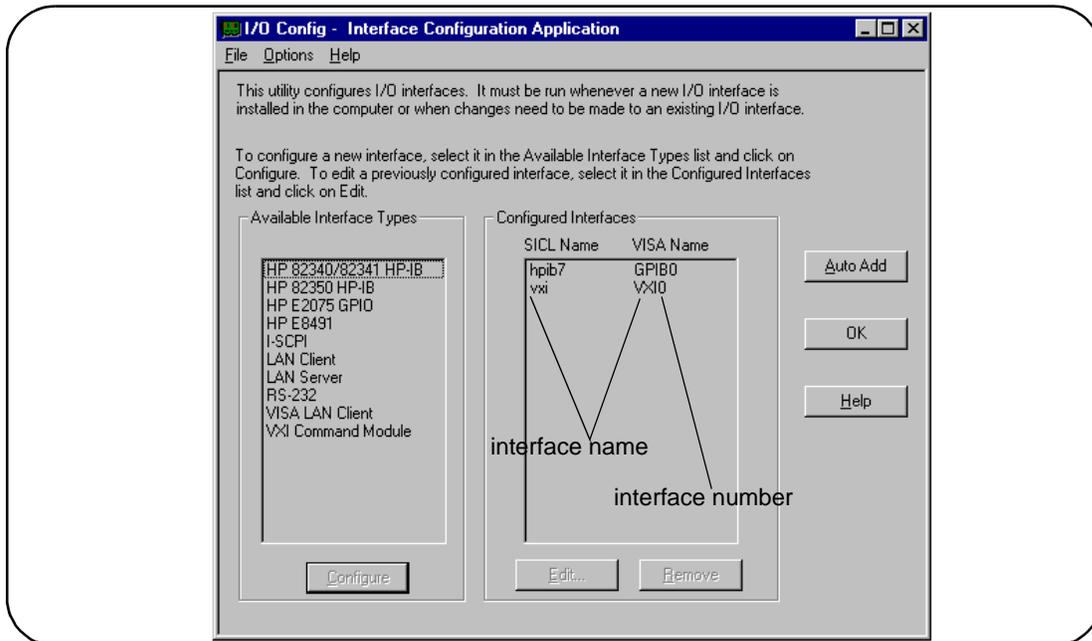
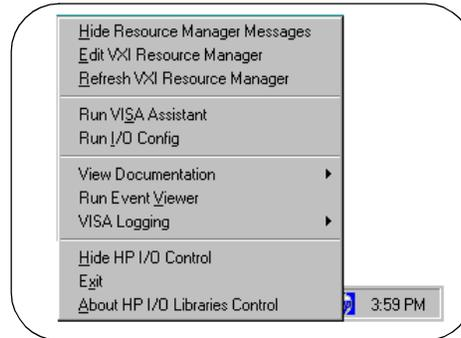

Figure 2-11. The HP I/O Libraries I/O Config Utility.
Figure 2-13. Editing Your Configuration on Windows 95 Platforms.
An alternative is to click on the HP icon in the lower right-hand corner of your monitor which is placed there following the installation of the I/O Libraries and configuring the HP E8491B. Clicking on the HP icon brings up a pop-up menu like that shown in Figure 2-13. Click on “Run I/O Config”. Either method described in this step brings up a configuration window similar to Figure 2-11.
- Figure 2-11 returns with the SICL Name and VISA Name inserted. Click OK to close the utility and complete the configuration.
When it is necessary to edit your configuration, click ‘I_O Config’ in the HPI/O Libraries program group (Figure 2-10). To edit the HP E8491B, click (highlight) the configured interface (“vxi VXI0”) in the utility (Figure 2-11). This activates the ‘Edit’ and ‘Remove’ buttons at the bottom of the window.
After installing the HP I/O Libraries and configuring the HP E8491B on the Windows 95 platform, an *hp* icon is placed in the bottom right corner of your PC monitor (Figure 2-13).
Runs the I/O Config utility and brings up the “I/O Config - Interface Configuration Application” window shown in figure 2-11.
2. Click on Start >> Programs >> I_O Config to bring up the I/O Config window (Figure 2-11).
- activated from the 'I/O Control' icon (see Figure 2-13)